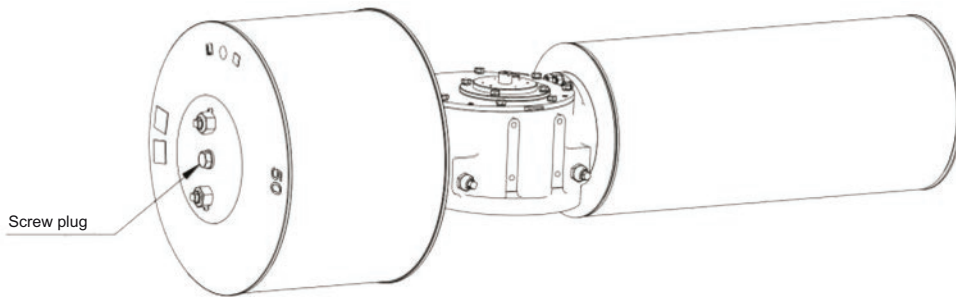

Figure 22
2. Unscrew the screw plug on the cover of the outer cylinder (see Figure 22).
3. Unscrew the screw plug on the outer cylinder (see Figure 22).